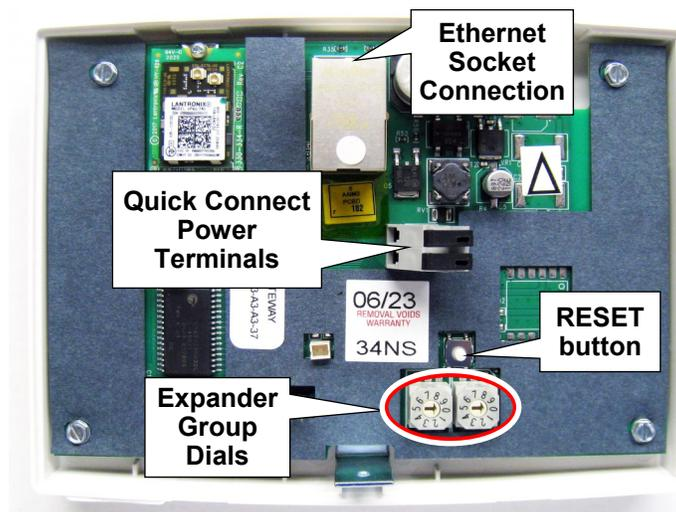
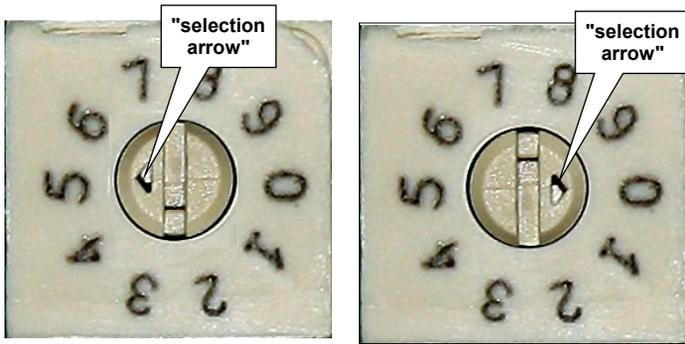

Fig. 4: Important parts of your **AA-GATEWAY**
Fig. 5. Example: The above Expander Group dials are set to "50"
Inside the **AA-GATEWAYPOE** are two rotary Expander Group Dials (see Fig. 4).
IMPORTANT: The small "selection arrow" on each dial must be pointing directly to the desired Group value. For example, in Fig. 5 (below), the Group value is set to "50". Use a small flat-head screwdriver to turn the dials and make the selections. *Be sure to orient the Gateway as shown in Fig. 4 with the **RESET** button ABOVE the dials to ensure proper Group setting!*
- Press and hold the **RESET** button (see Fig. 4 for button location).